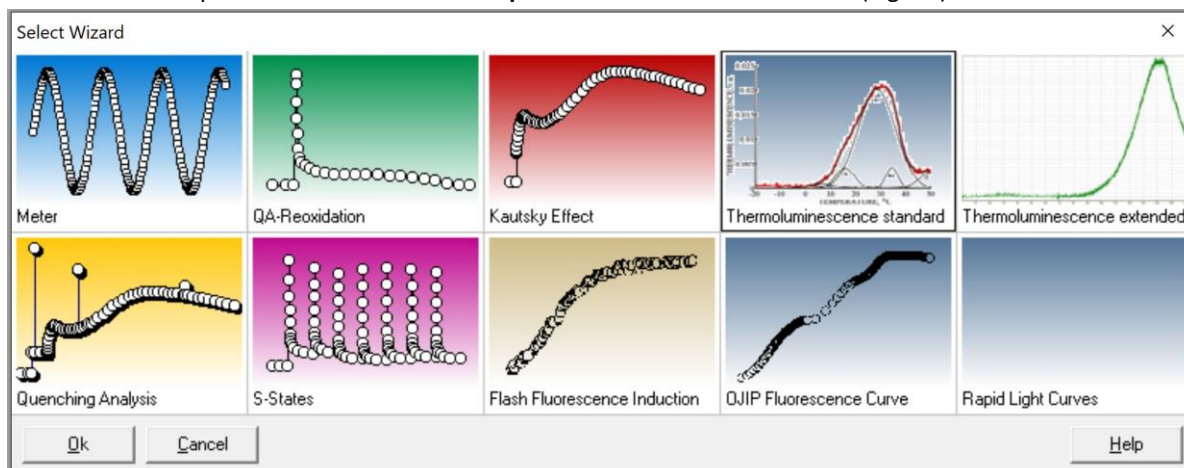

Fig. 27 Wizard menu.
- Select the required **thermoluminescence protocol** from the Wizard menu (Fig. 27).